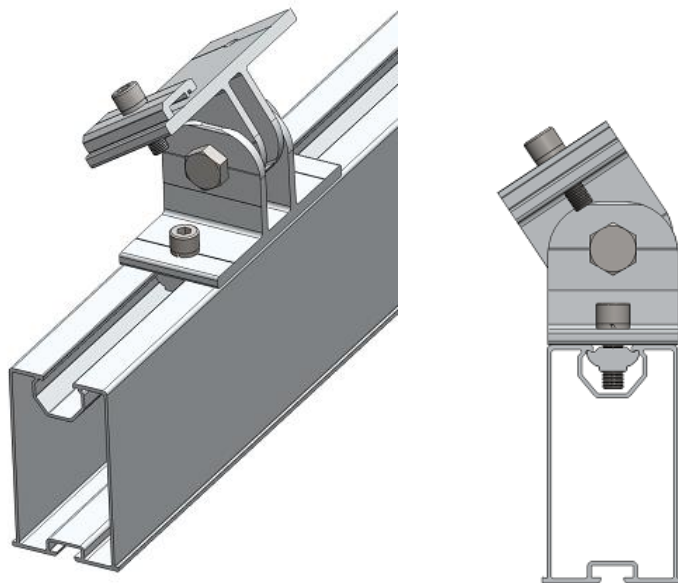

Figure18
4.3.1 Adjust the East-West Adjustable Bracket to the properly position and click the W Module into the slot of Girder as shown in Figure 18. Fasten the M8 Bolts slightly.